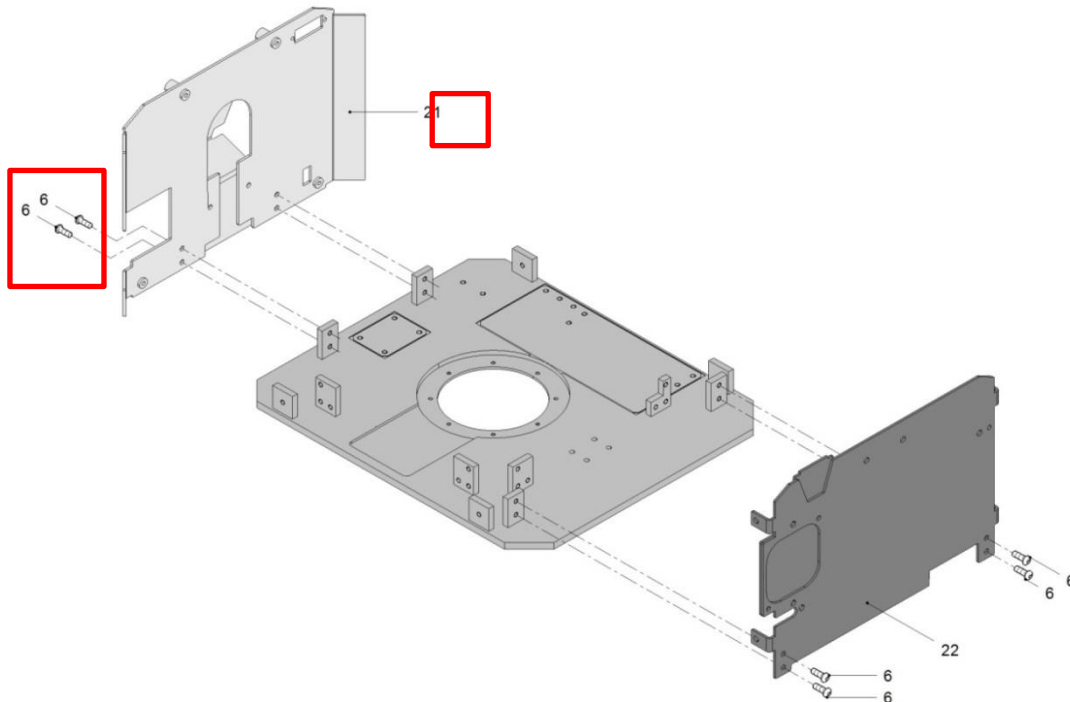

Fig 2
3. Disconnect connector **CN13** and **CN22**. Remove screws **6** and take off the front plate n.**21** as shown in fig.2